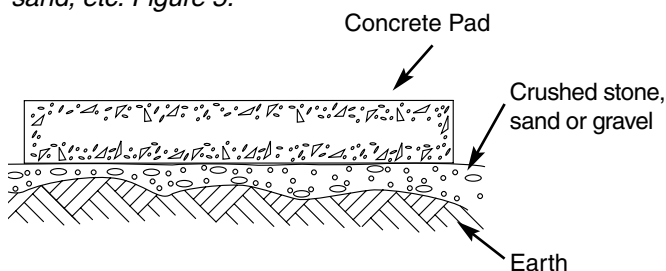

Figure 5
*Note - Follow the concrete bag mix, manufacturers recommendations concerning pad preparation, gravel, sand, etc. Figure 5.*